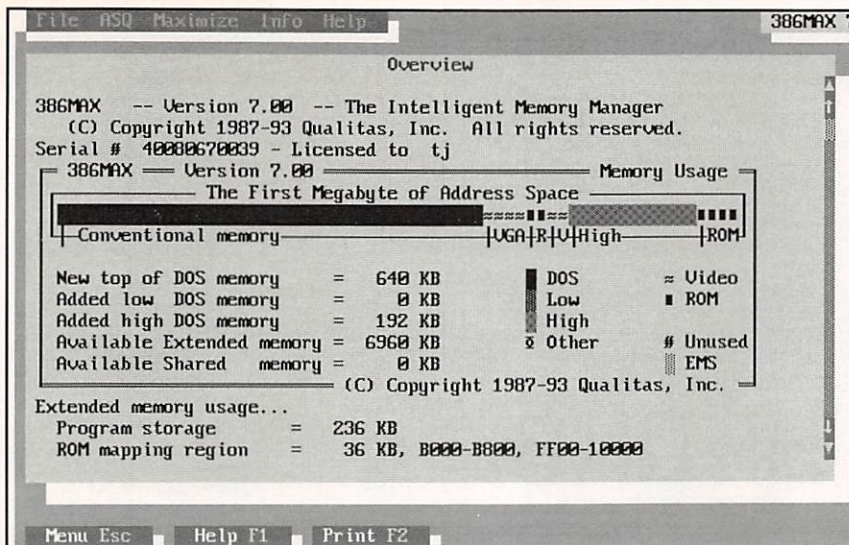

Fig. 1. Unlike most memory managers, whose menus are strictly text oriented, *386Max* adds a small element of graphics to its screens.
- **Upper Memory.** The revised allocation leaves 384K above the 640K barrier that the PC's hardware can use for itself. This area goes by several names, including reserved memory and shadow memory, but DOS prefers to call it *upper memory*. Figure 1 and Table 1 show the structure of upper memory.
The *386MAX* package from Qualitas (Fig. 1) runs on most 386, 386SX and 486 PCs with 256K or more of extended memory. This application includes a sophisticated program that automates the installation and configuration process. The first part of the process is a menu-driven questionnaire, where you're asked questions